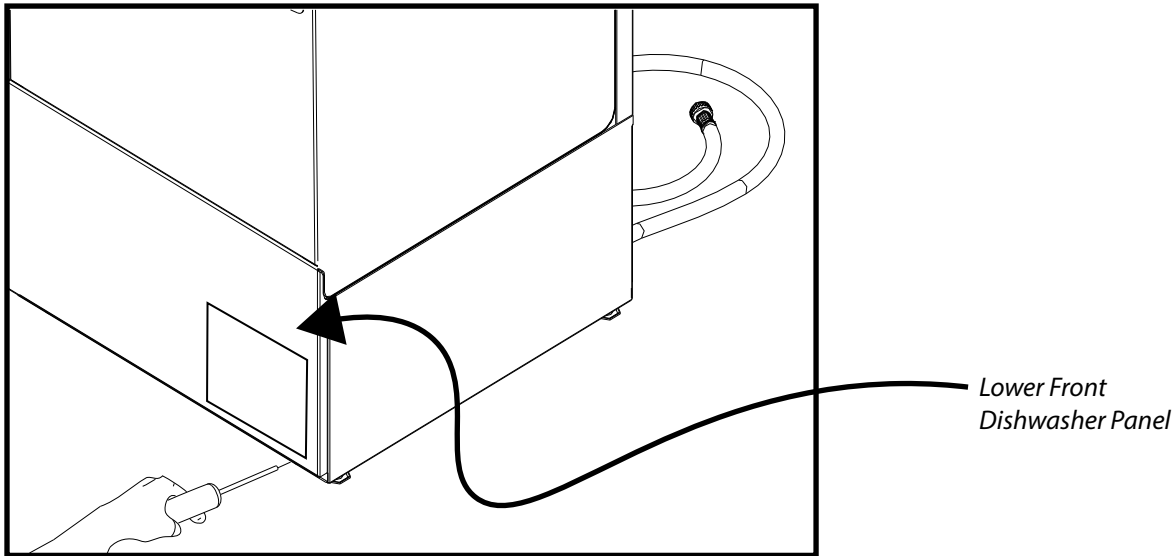

Fig. 5
1. Remove the lower front dishwasher panel (Fig. 5).